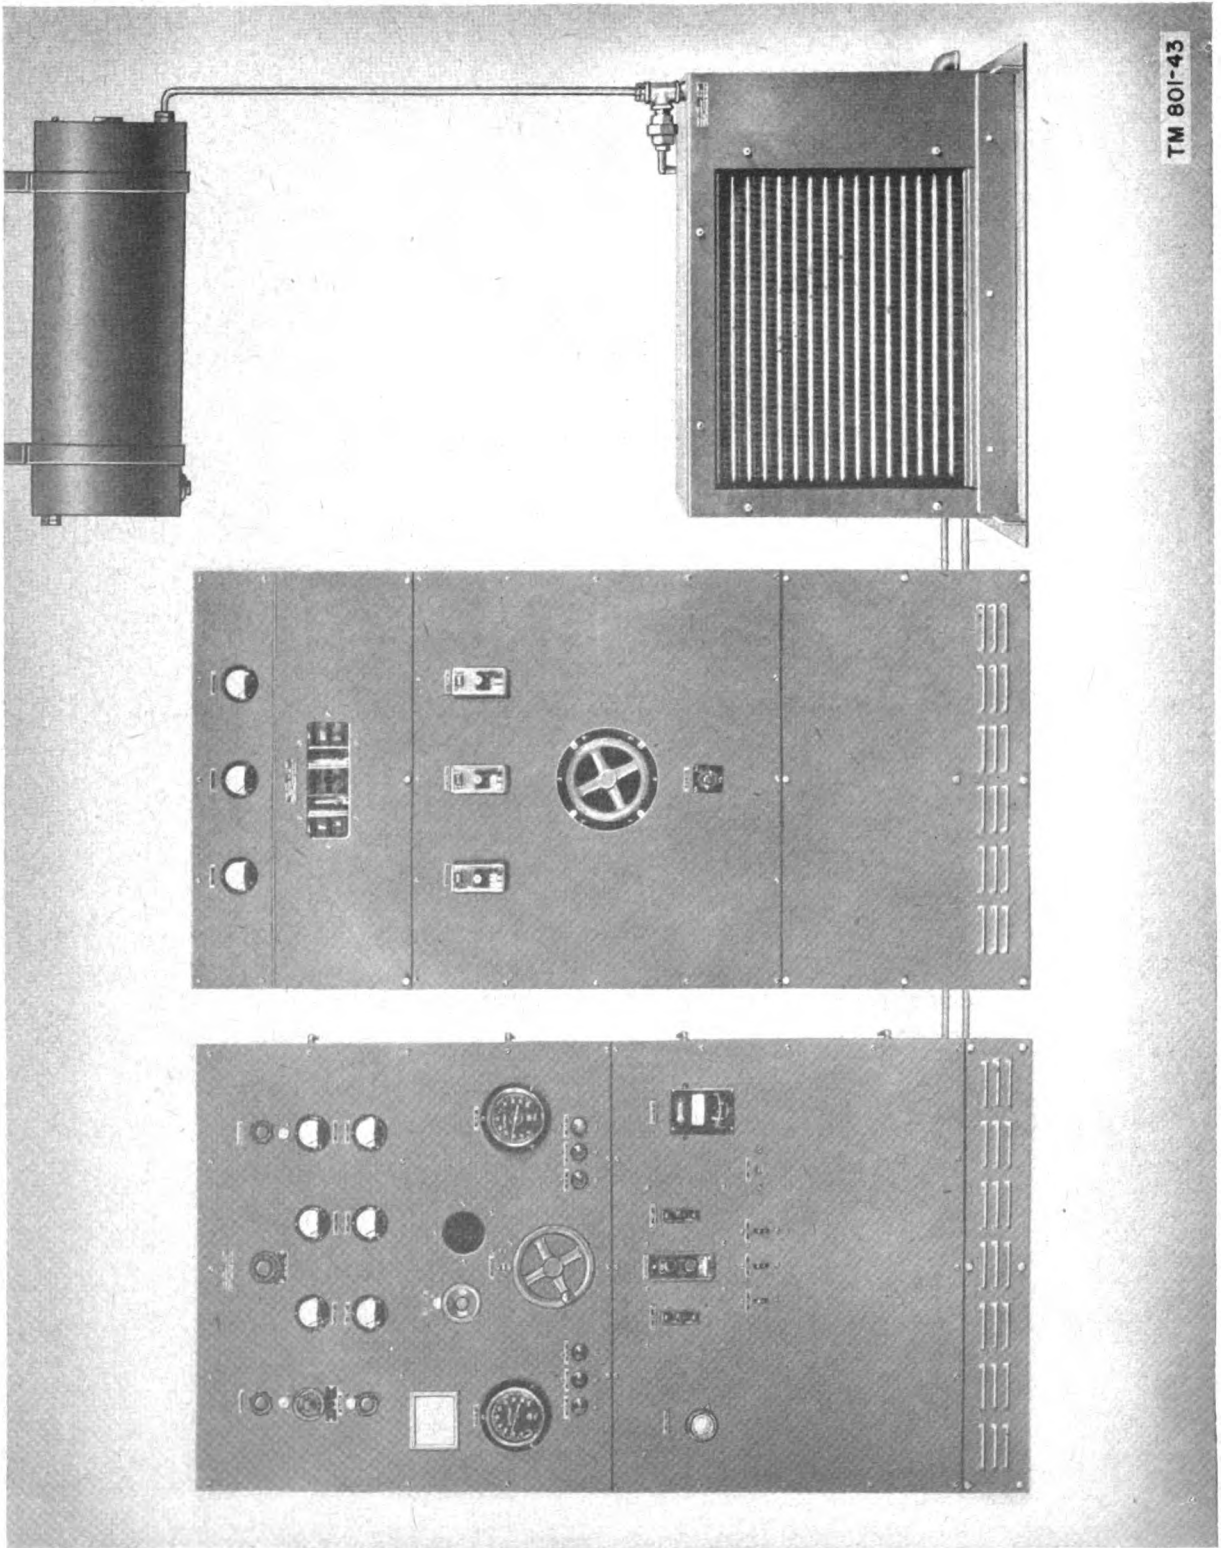

Figure 1. Amplifier Group AN/FRA-2.
a. Amplifier Group AN/FRA-2 (fig. 1) is a 10-kw (kilowatt) r-f (radio-frequency) amplifier, used to amplify a c-w (continuous-wave) or frequency shift radioteletype signal over a continuous frequency range of 4 mc (megacycles) through 26.5 mc.